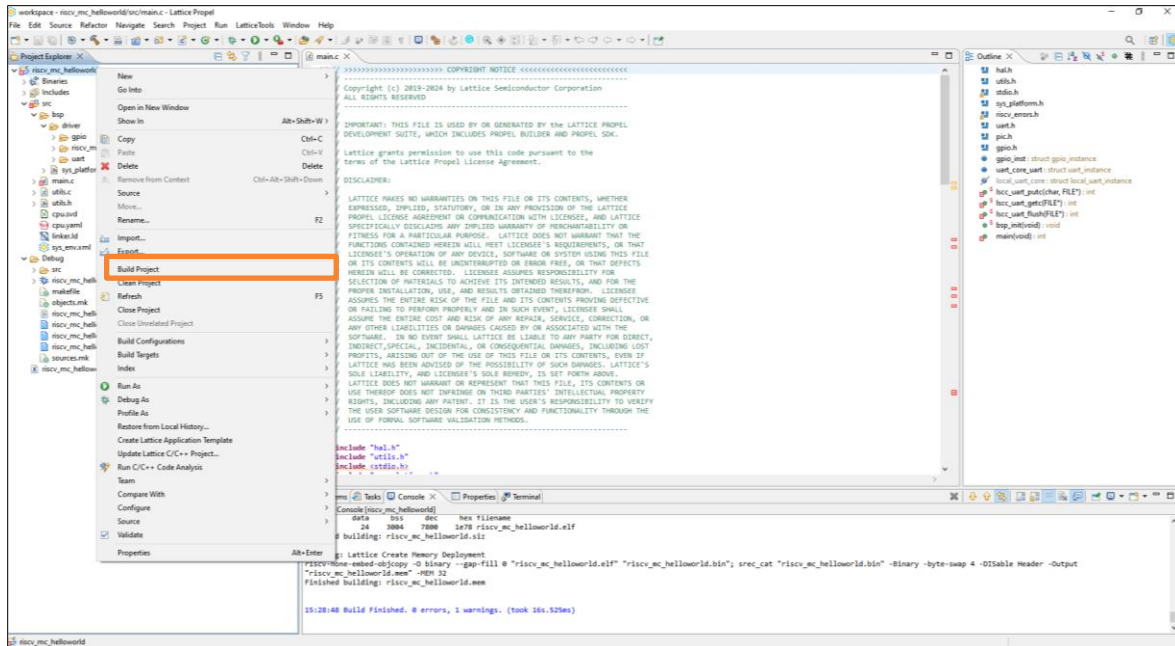
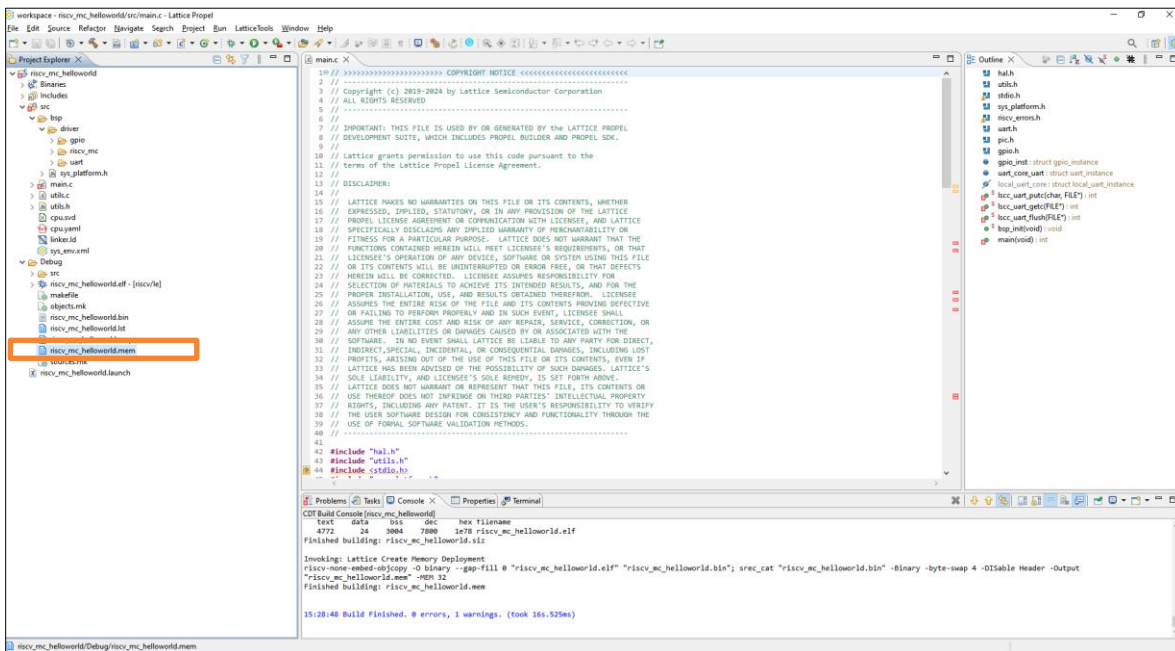

Figure 2.143. Build C/C++ Project
Figure 2.144. Mem File for Simulation
6. In Propel SDK, right click on Project and then click **Build Project** (Figure 2.143). A mem file is generated in **Debug** folder (Figure 2.144).